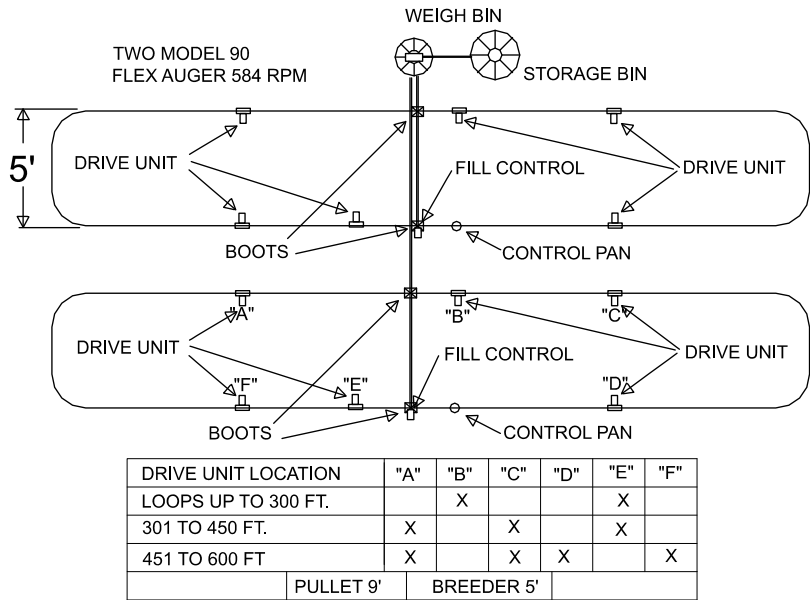

Figure 2.Breeder Feeder Planning
2. **Figure 2. on page 8**, shows the proper suspension system for all feeder line lengths. Notice additional support must be provided at each feeder boot, power unit, and elbow location.